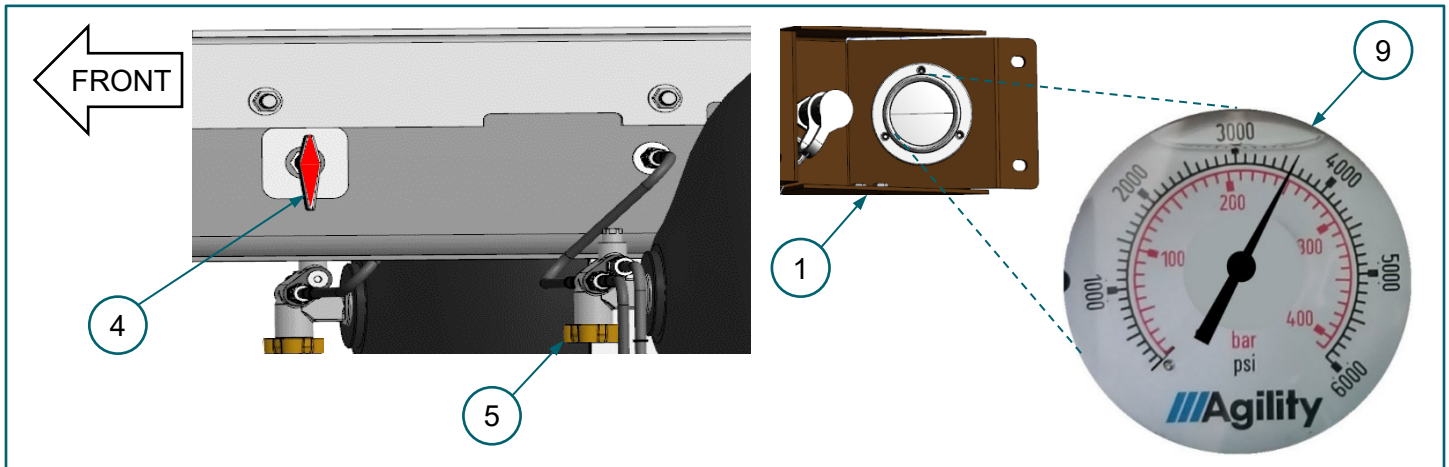

FIGURE 4–6. Fuel fill panel, (9) HP gauge reading 3600 psi, (4) 1/4-turn manual shutoff valve, (5) DS cylinder manual valve
10. Fuel vehicle to 3600 psi (24.6 MPa). **FIGURE 4–6.** Refer to fuel *Refer to ENP-516, Truck and Tractor CNG Fuel System Operation, Maintenance & Inspection Manual, “CNG System Fueling”* section.